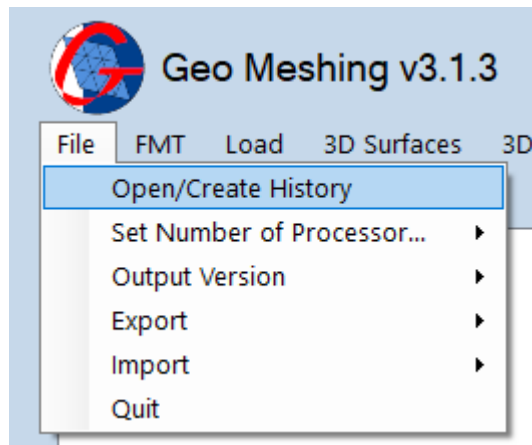
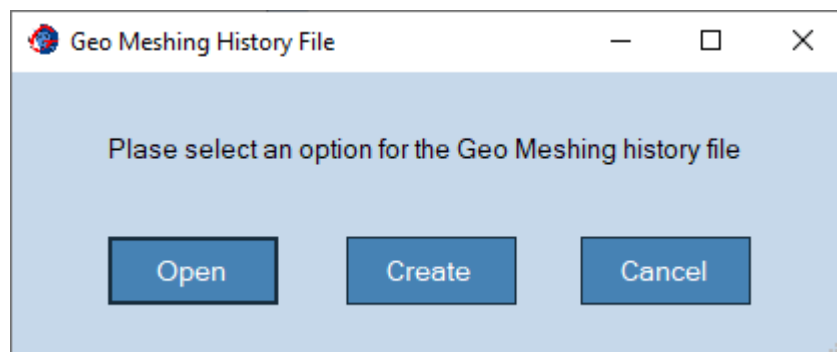

Figure 7: File Menu – Open/Create History.
Figure 8: Open/Create history dialog window.
- **File Menu, Open/Create history:** This option (shown in Figure 7) shows the dialog window of Figure 8, for opening a history file or setting up a new history file.